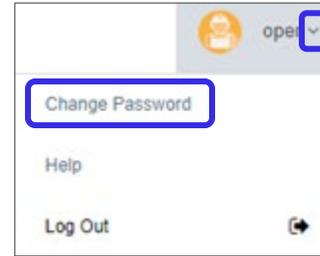

Figure 143: User Change Password menu item
- Click the down arrow icon by the username in the upper right of the program window. Click **Change Password** in the drop-down menu (Figure 143).